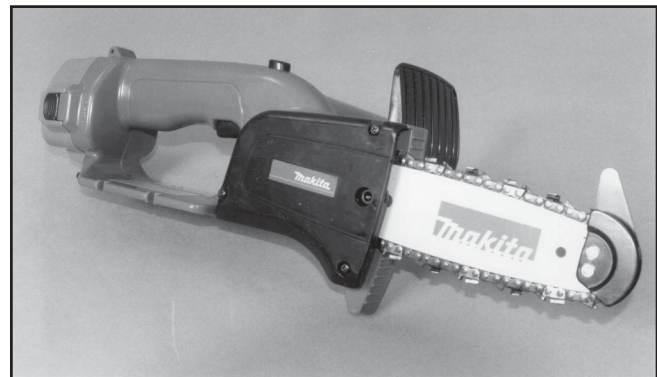

Figure 5—The Makita cordless chain saw.
**Small Cordless Chain Saws**—A cordless Makita chain saw was among the tools considered (figure 5). The saw has a 4 $\frac{1}{2}$ -inch cutting capacity. This saw (Model UC120DWA) costs \$230. The price includes a 12-volt rechargeable battery (2.0 ampere hours), a 1-hour battery charger, bar guide, chain, blade cover, file, hex wrench, bottle of chain oil (for manual application), and carrying case. Chain speed is advertised at 520 feet per minute. The unit is 18 $\frac{1}{2}$ -inches long and weighs about 4.8 pounds. The factory tip guard had to be removed before this tool could be used for scoring.